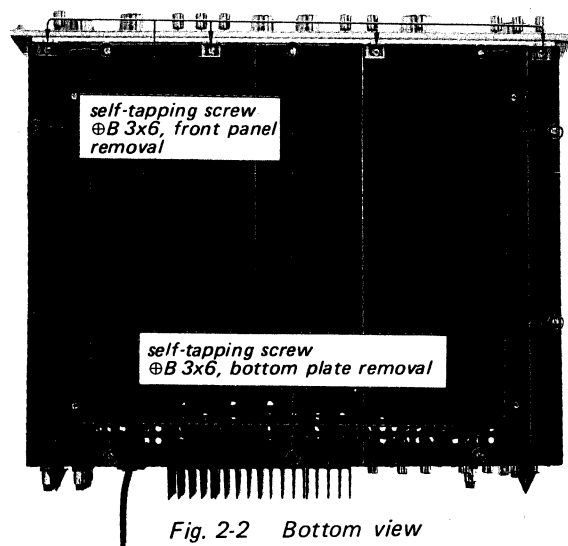

Fig. 2-2 Bottom view
2. Remove the ten self-tapping screws (\oplus B 3x6) at the bottom of the receiver (see Fig. 2-2) and pull the bottom plate in the direction indicated by the arrow in Fig. 2-2.
4. Remove the four self-tapping screws (\oplus B 3x6) at the front bottom of the chassis as shown in Fig. 2-2. This frees the front panel.